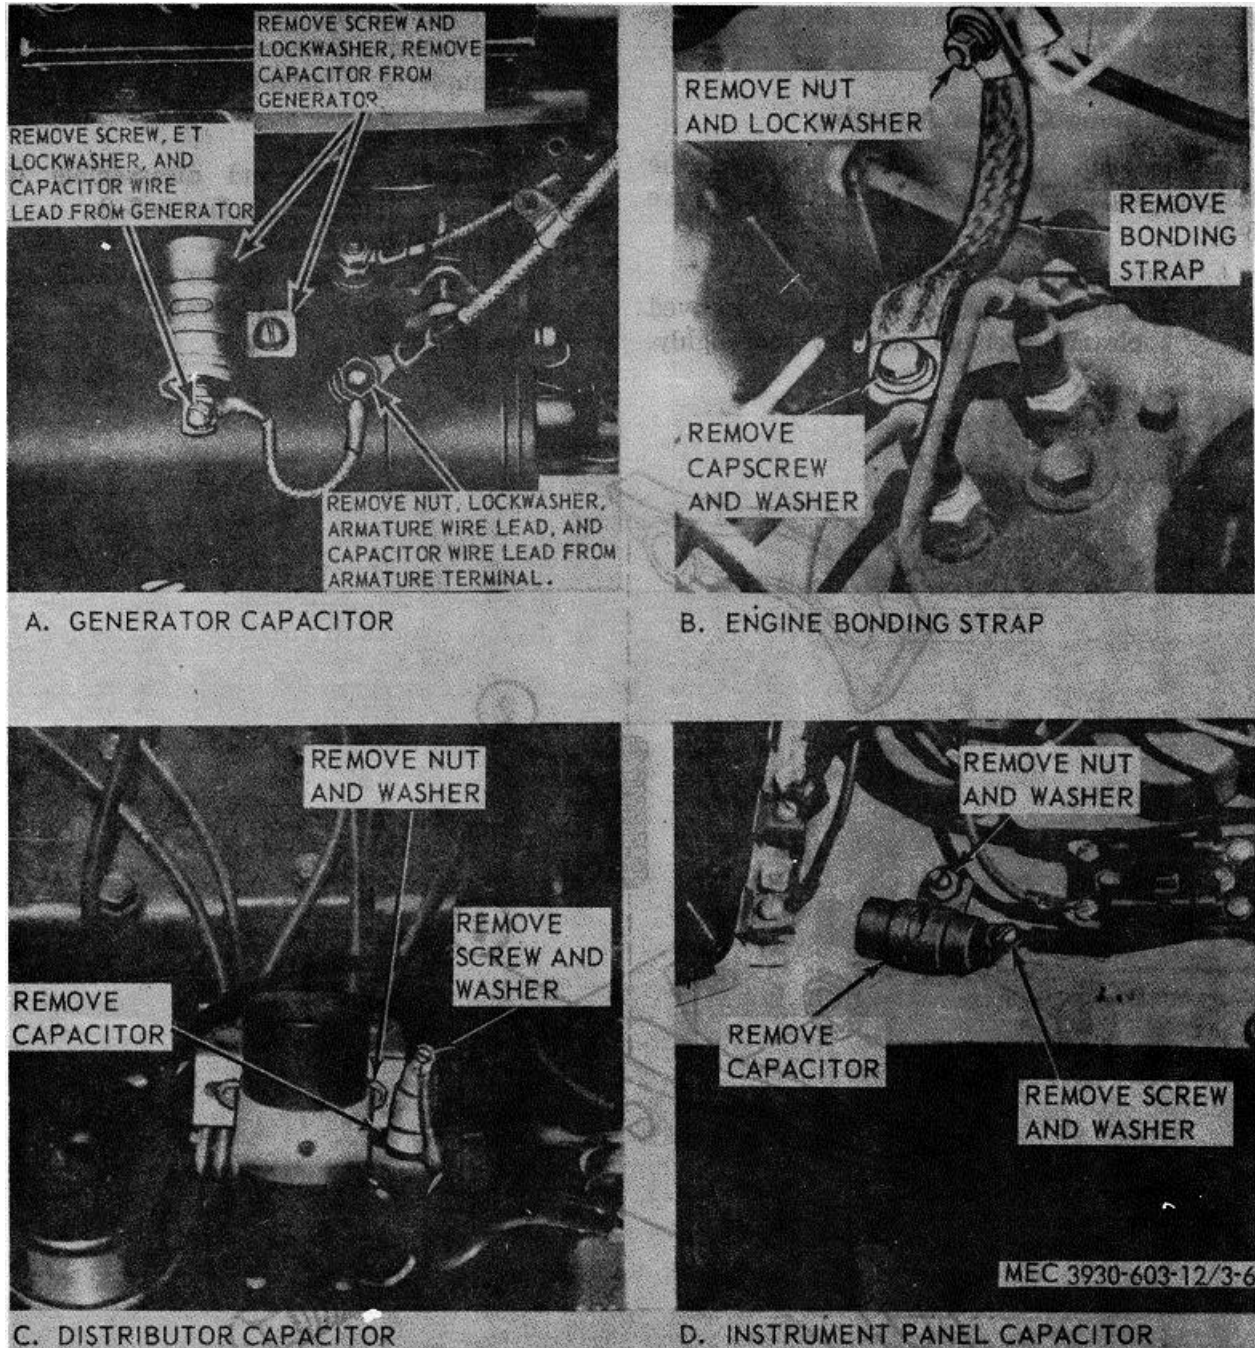

Figure 3-6. Interference suppression components, removal and installation.
a. Primary Suppression Components. The primary suppression components are those whose primary function is to suppress radio interference. These components are described and located in figure 3-6.
Refer to figure 3-6 to replace the radio interference suppression components.